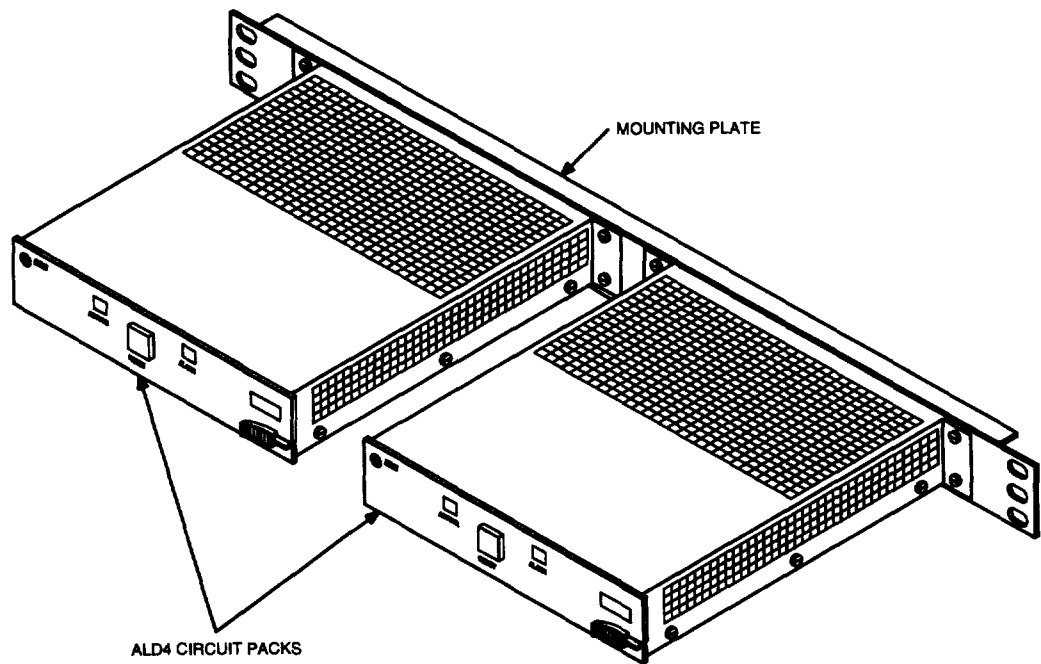

Figure 4. Remote Record Concentrator Equipped with Two ALD4 Circuit Packs
- 3.01** The RRC shares the same physical configuration as the 14A Announcement System. The unit is 2 inches high by 23 inches wide by 11-1/2 inches deep, including the mounting plate and apparatus mountings for two independent channels (See Figure 4). The ALD4 circuit pack(s) connect to 940A connectors mounted on the mounting plate. Wire wrap pins on the 940A connector's wiring side interconnect the unit for power and distribution to the RRUs. The two apparatus mountings attached to the mounting plate receive the ALD4 circuit packs and guide them into the connectors via sliders. Table A describes the major components of the ALD4 circuit pack.
- 3.03** System controls and indicators are located on the faceplate of the ALD4 (see Figure 4). These are described in Table B.